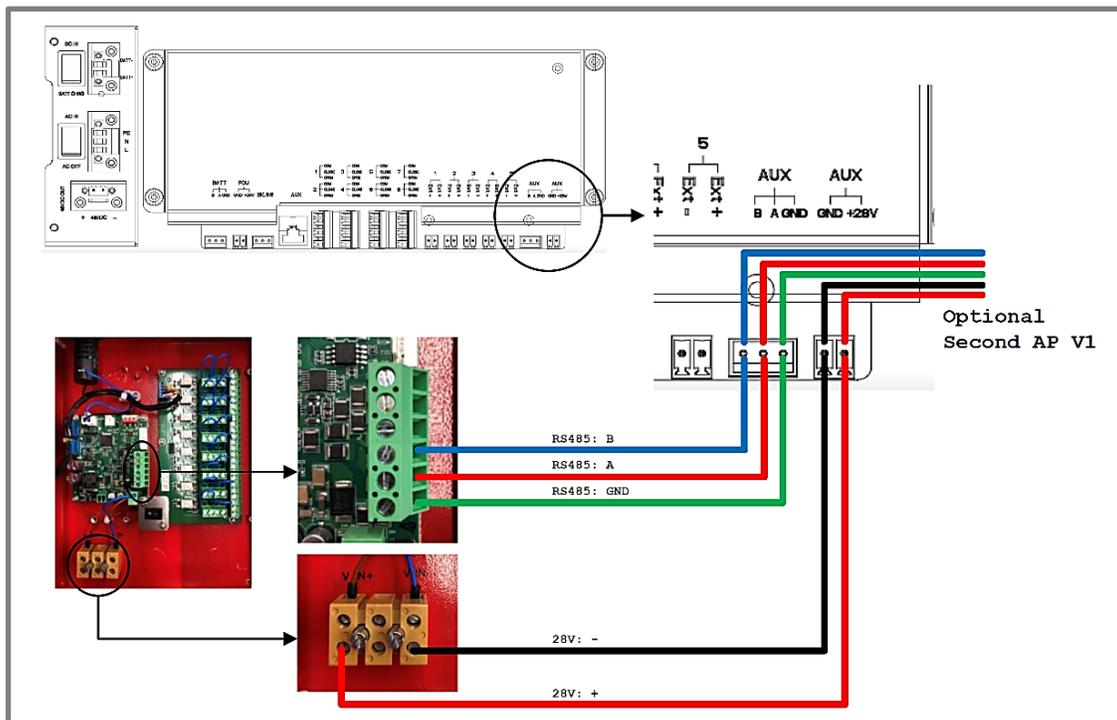

Figure 62: V3 BDA/MU and RU – AP V1 Connection
- Connect the 3 x RS485 wires between the BDA/MU/RU “AUX” (A, B, and GND) terminals to the V1 AP as shown below in Figure 62.
- Connect the +28VDC and -28VDC Power wires between BDA/MU/RU “AUX” (28VDC and GND) terminals to the V1 AP as shown below in Figure 62.